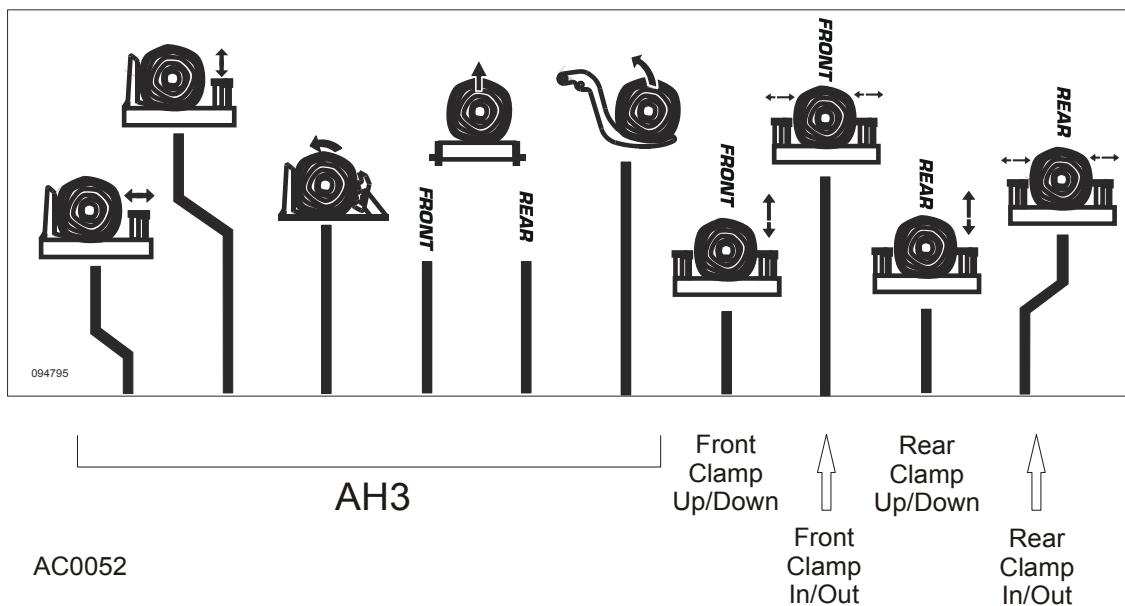

**FIG. 2-9**
**See Figure 2-9.** AH3 Hydraulic units have six control levers to load, clamp, turn and level logs. AH5 and AH7 hydraulic units have four additional levers for controlling the Pull-Down clamps. In sawmills equipped with AH5 hydraulic system, individual Pull-Down clamps are controlled with separate levers. In sawmills with AH7 hydraulic system, in/out movement of individual clamps is controlled with the same lever and up/down movement of individual clamps is controlled with separate levers. AH5 and AH7 hydraulic control boxes are equipped with an oil flow control valve